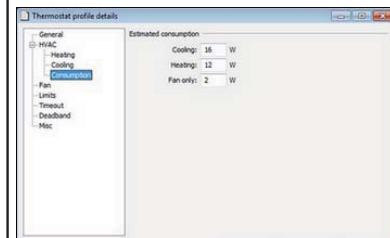

Figure 46
- The **Consumption** alternative is only applicable if the *Integrated Room Control dashboard* is used. If this is the case, enter applicable values for the three cases 'Cooling', 'Heating' and 'Fan only'; see examples in Figure 46.